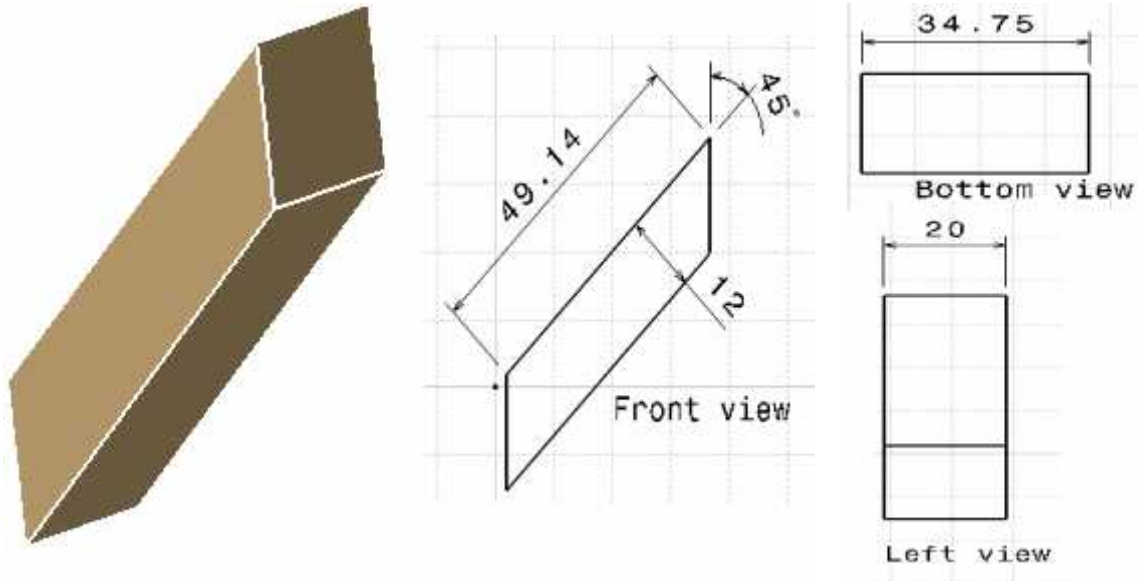

Figure 3.3 The Supports (all dimensions are in mm)
2. *The Supports:* these mechanical parts were designed and manufactured from rigid material (which is aluminum) to achieve the following: (see figure 3.3)